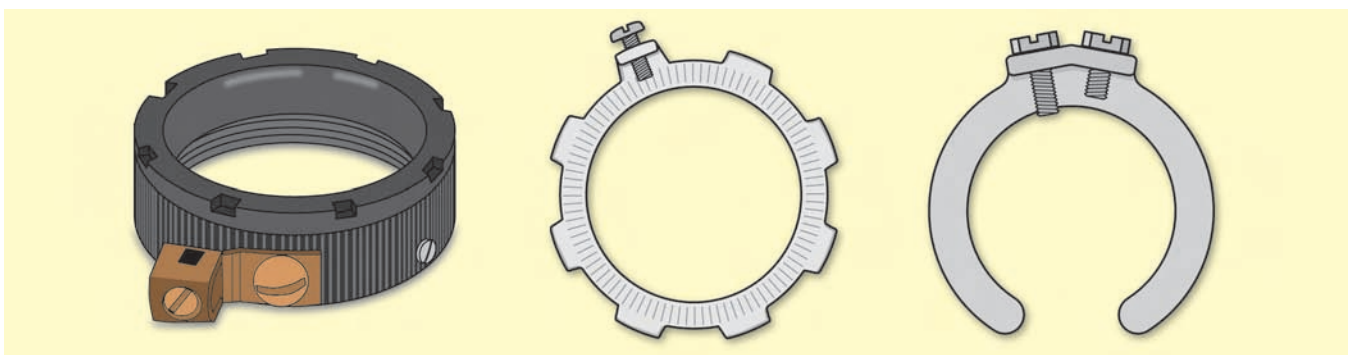
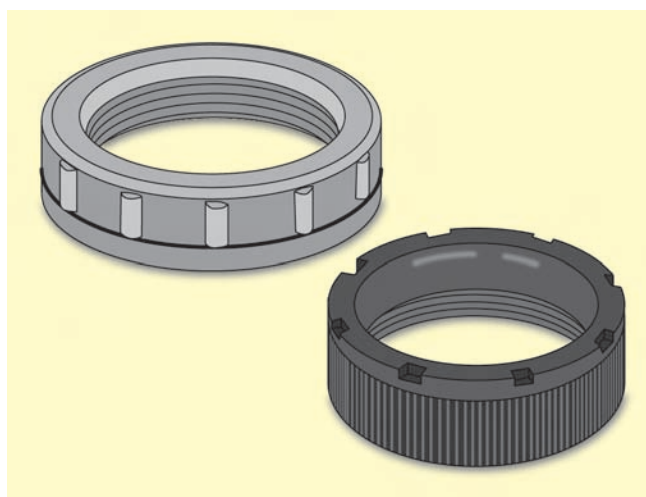
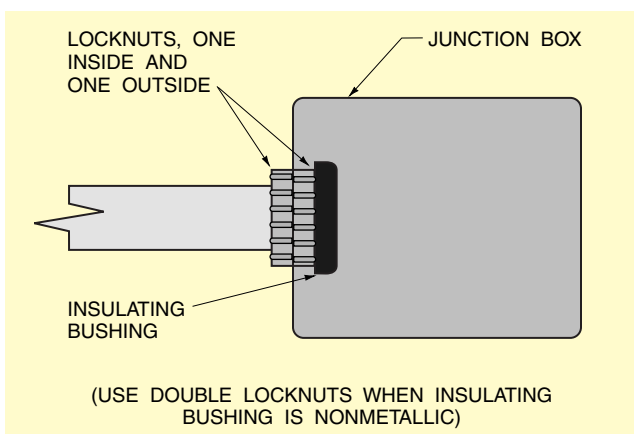

Figure 27-29 An insulating grounding/bonding bushing with grounding lug, a bonding locknut, and a bonding wedge.
Figure 27-30 Insulating bushings.
Figure 27-31 The use of double locknuts plus an insulating bushing. See 300.4(F) and 312.6(C).
grounding bushing might also have a means (one or more set screws) that ensure reliable bonding of the bushing to a metal raceway, in which case the bushing serves as a grounding and bonding bushing. These bushings are available with an insulated throat. See Figure 27-29. These are the most commonly used for bonding residential electrical services.
Grounding/bonding bushings, bonding wedges, grounding conductors, and bonding jumpers are installed to ensure a low-impedance path to ground if a fault occurs. Bonding jumpers are required where there are concentric or eccentric knockouts, or where reducing washers are installed. ► *NEC*® 300.4(F) states that if 4 AWG or larger ungrounded circuit conductors enter a cabinet, box enclosure, or raceway, an insulating bushing or equivalent must be used, shown in Figure 27-29, Figure 27-30, and Figure 27-31. Similar insulating bushing requirements are found in 312.6(C), 314.17(D), 314.28(A), 354.46, and 362.46. ◀ Insulating bushings protect
If the bushing is made of insulating material only, as in Figure 27-30, then two locknuts must be used, as shown in Figure 27-31.